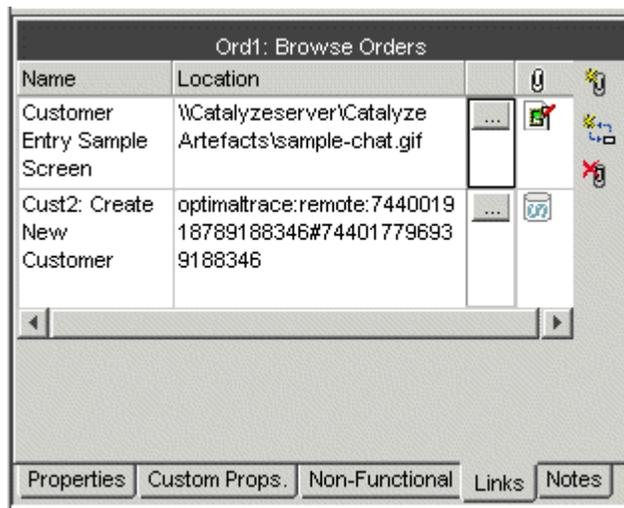

Figure 18 - Project Level Links in Optimal Trace™ Enterprise
- Click on the Links tab to access Links associated with the current Project, and the screen shown Figure 18 above will appear. See Table 2 below, for details.